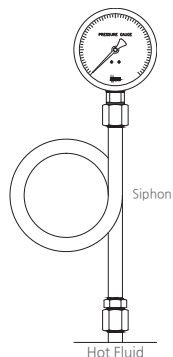

Figure 2
- 3) If the gauge is dealing with a high temperature fluid, then syphon tube is required so the adequate temperature can be delivered to the gauge. (Figure 2)